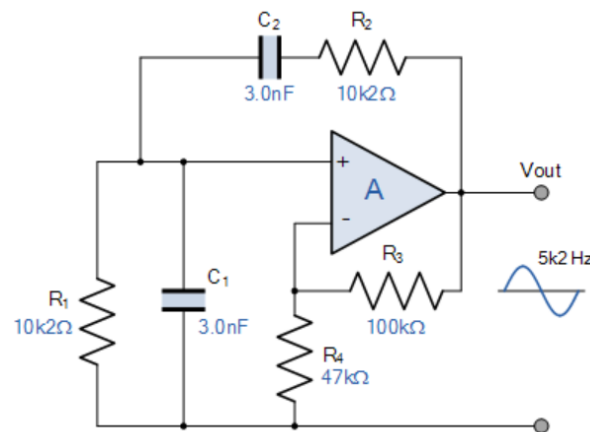

Figure 2: Wien-Bridge Oscillator by using op-amp
1. Make a circuit as shown in figure 2.